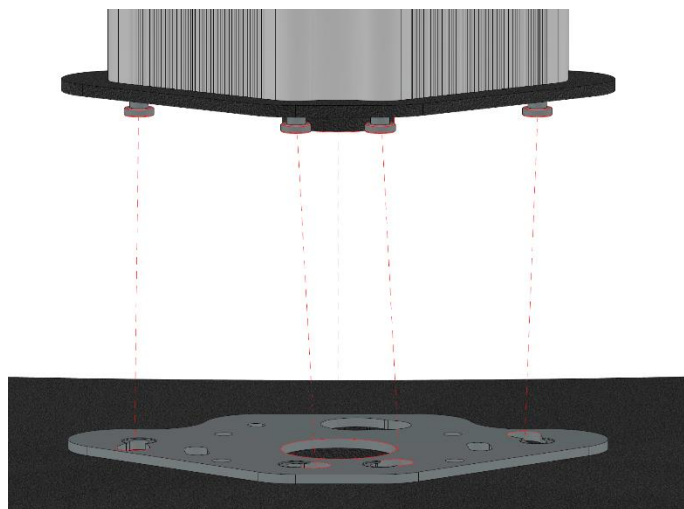

Figure 4 Placing lower column
Step 2: Place the lower column on the designated position on the ground plate. As illustrated in Figure 4.